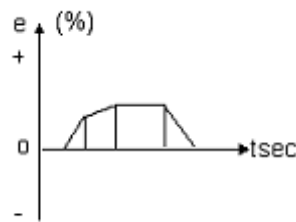

Figure 1:
- (b) Why a pure derivative is not preferred? Draw the derivative controller output for the error given below figure1. (Assume the relevant settings) [8+8]